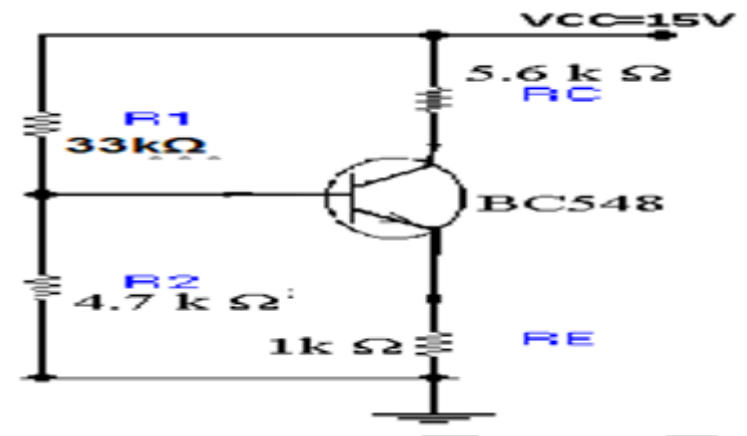

Fig 1: Self biased Circuit
1. Connect the circuit as shown in figure 1 and check the Dc Conditions. i.e.